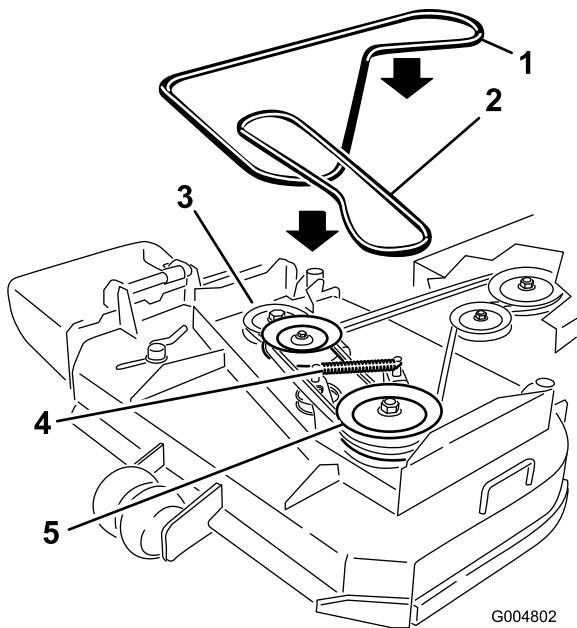

Figure 39
6. Disconnect the idler arm spring to relieve tension on the idler arm and idler pulley, then remove the worn mower belt (Figure 39).
7. Install the new mower belt around the two outside spindle pulleys, the idler pulley, and in the lower groove of the double spindle pulley (Figure 39).
8. Connect the idler arm spring (Figure 39).
10. Adjust the belt guide an 1/8 inch (3 mm) from the belt (Figure 39).